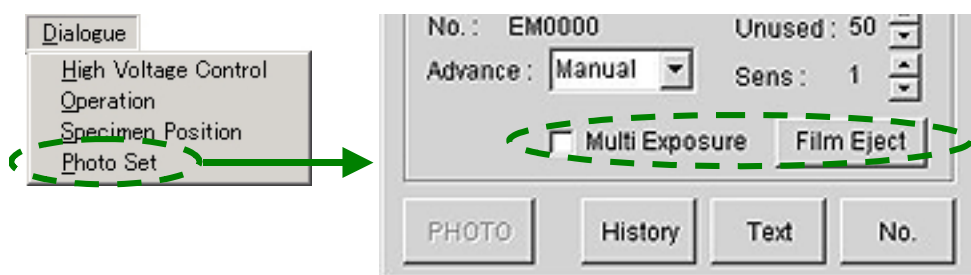

Fig. 5.48 Film Camera Property window(Multiple-Exposure mode)
1. Check Multi Exposure in the **Film Camera Property** window to enter the multiple-exposure mode ( Fig. 5.48).
2. Photograph the image by pressing the PHOTO switch (R1-⑧) to move the film to the photographing position, and pressing the PHOTO switch again.